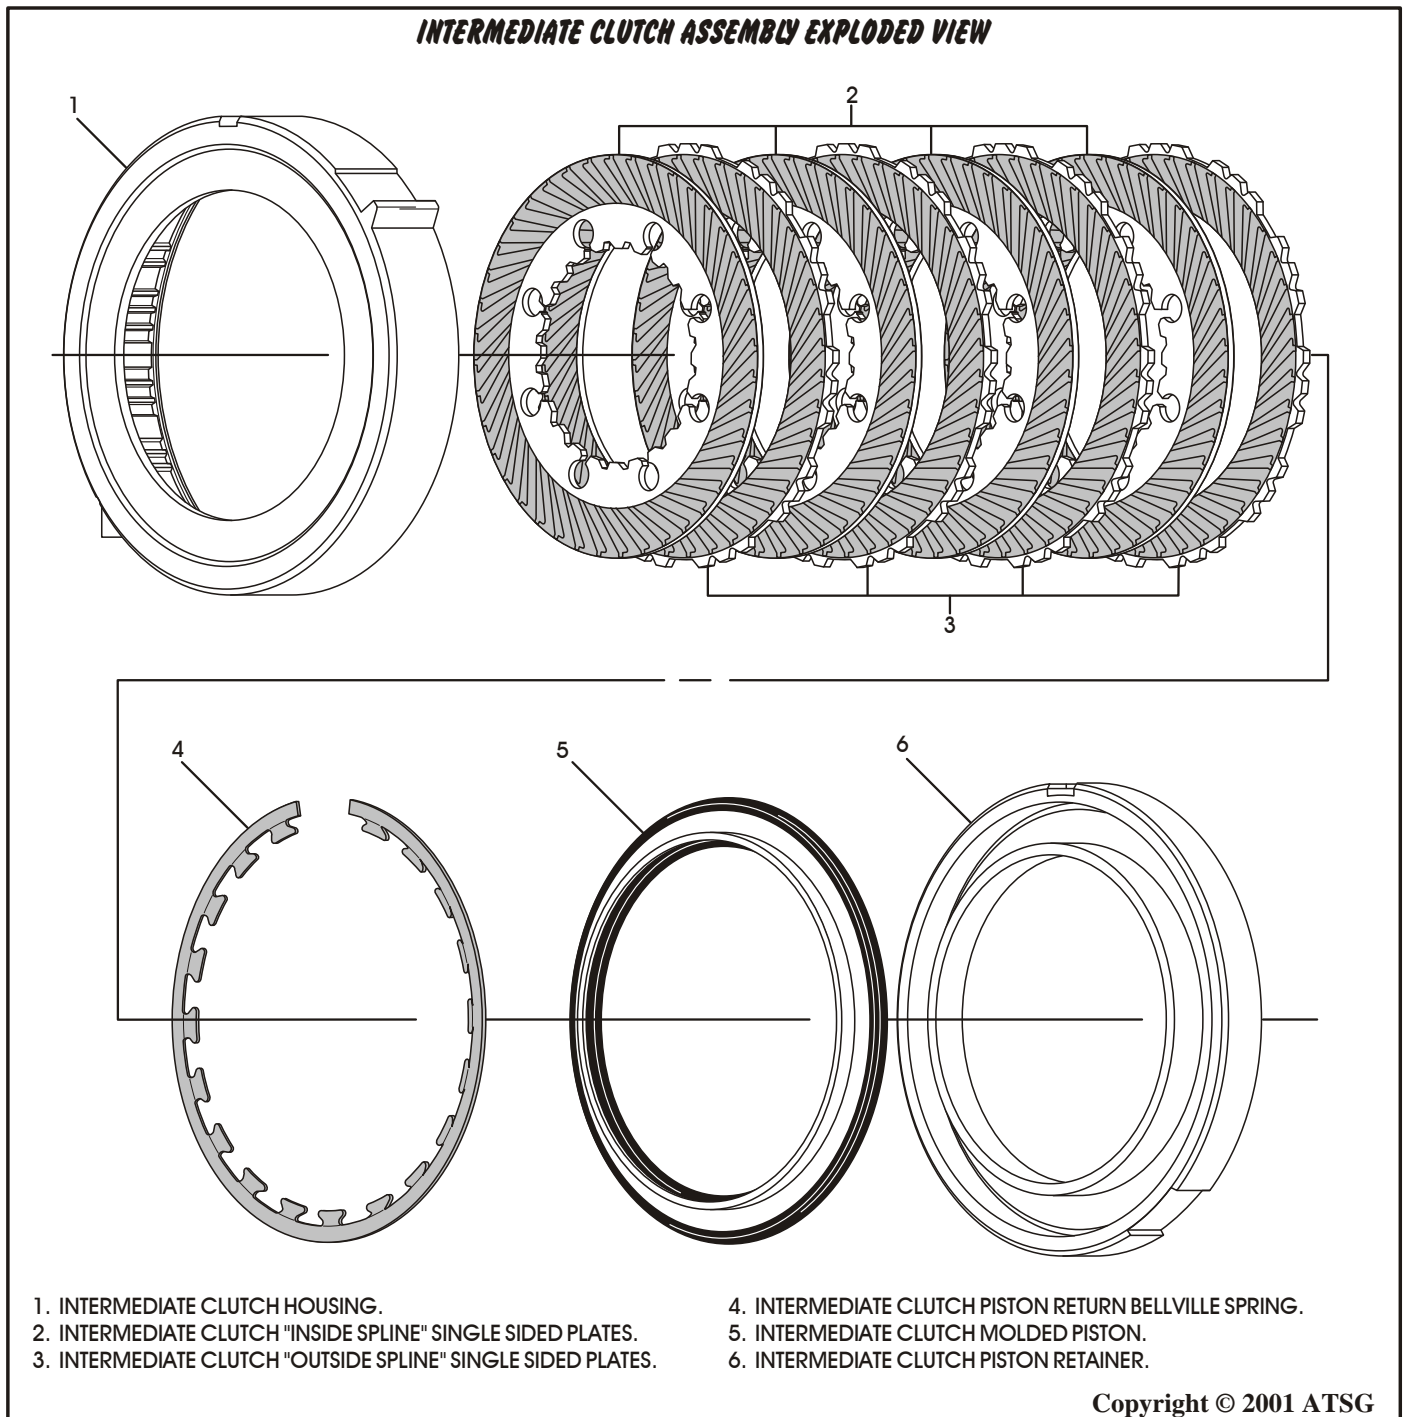

Figure 112
1. Disassemble the intermediate clutch assembly using illustrations in Figure 112 as a guide.
5. Note that the intermediate clutch plates are the single sided design, as shown in Figure 112. *Note: These plates have a special "off-set" machining on the teeth, so that they will not assemble in transmission if installed wrong.*